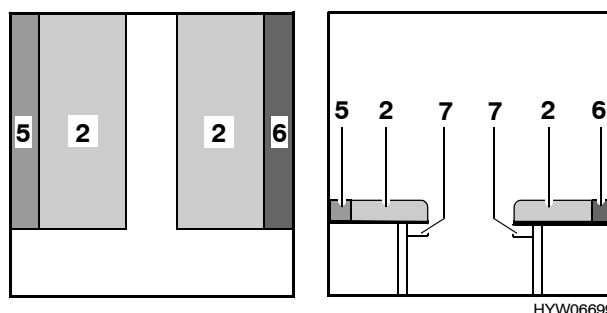

Fig. 42 After conversion
- Insert the back cushions (Fig. 42,5 and 6) between the seat cushions (Fig. 42,2) and the exterior wall.